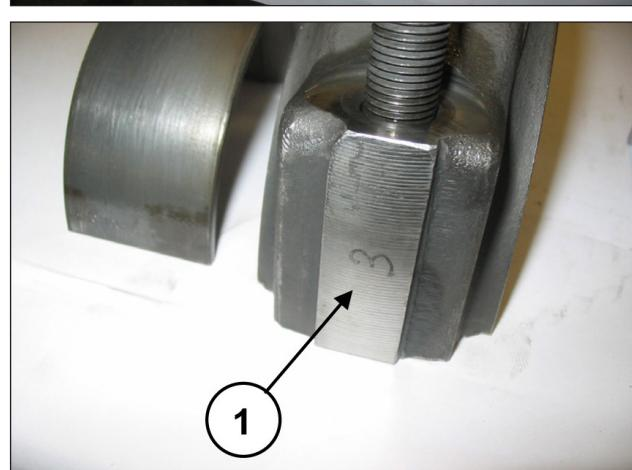

Fig. 42
Couple the half-conrods to the previously disassembled caps, referring to the numbering (pos. ①, Fig. 42).
Separate the caps from the half-conrods. Proper coupling can be verified by the numbering on the side (pos. ①, Fig. 42).